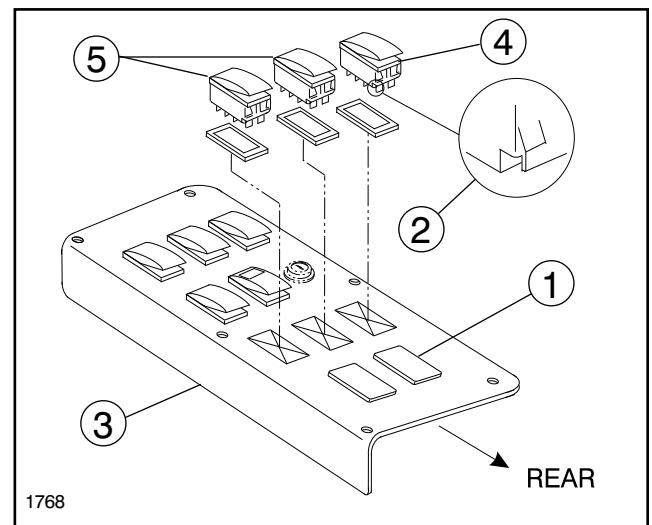

FIG. 6
e. Lift and remove the three plugs from the Vehicle's Spray Control panel and install the three Rocker Switches provided in the location shown in Fig. 6. Insure their orientation matches the orientation shown in FIG. 6, with the cutout notch to the rear of the vehicle. This notch indicates the end of the switch to which the locking Arm will mate.